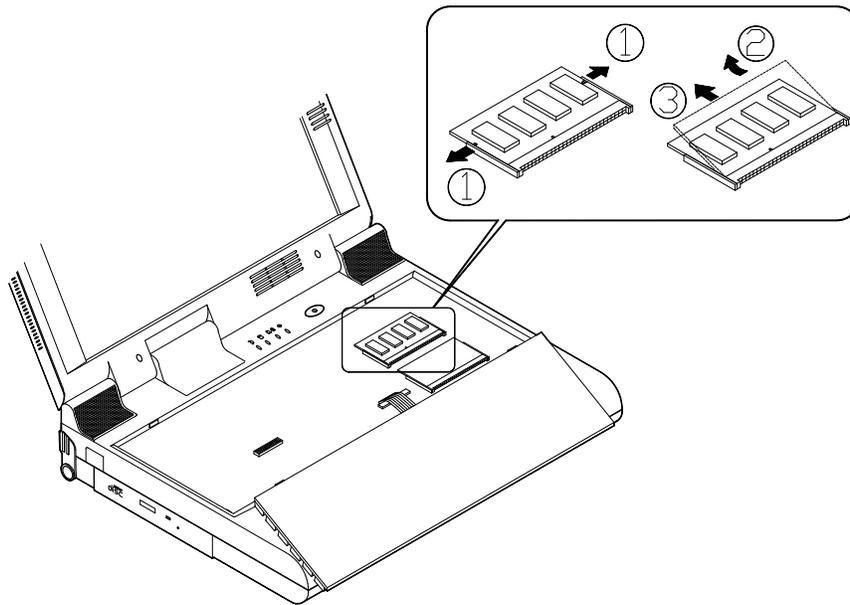

Figure 2-9
4. Gently pull the two latches on both ends of the module outward. The module will pop up (Figure 2-9).